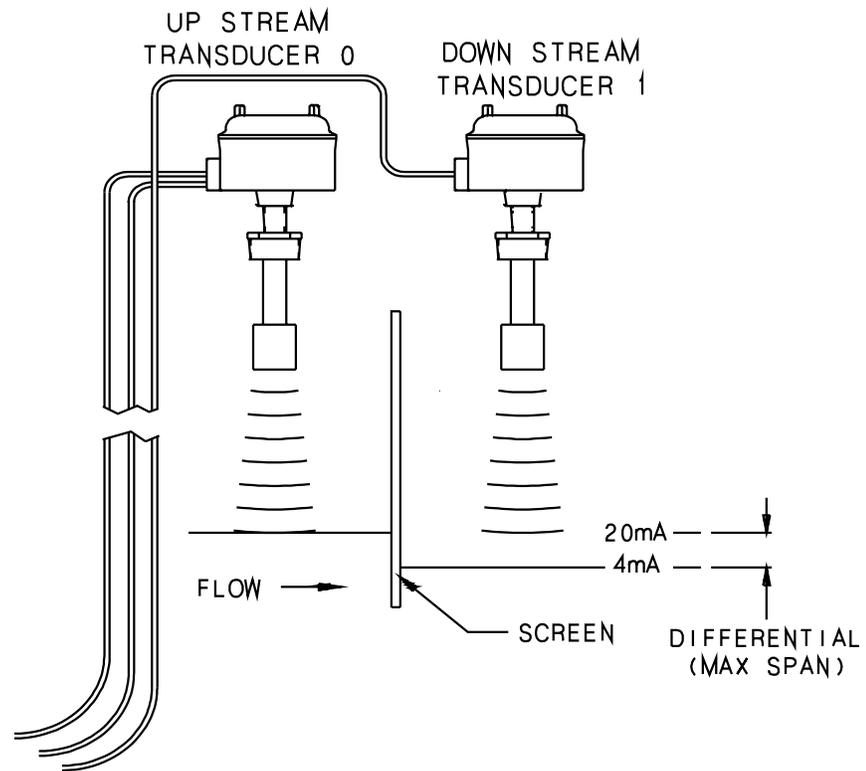

Figure 4-2
- Set span switches to the maximum difference that you want to measure. See *Figure 4-2*.